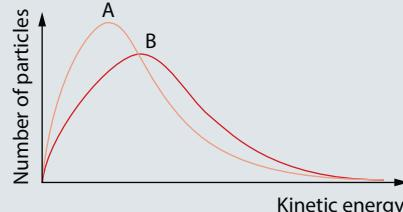

FIGURE 7.5.5 Energy profiles at 40°C and 60°C.
- 18 a Figure 7.5.5 shows the distribution of energies of particles in a substance at two different temperatures, 40°C and 60°C. Indicate the temperatures represented by graphs A and B.